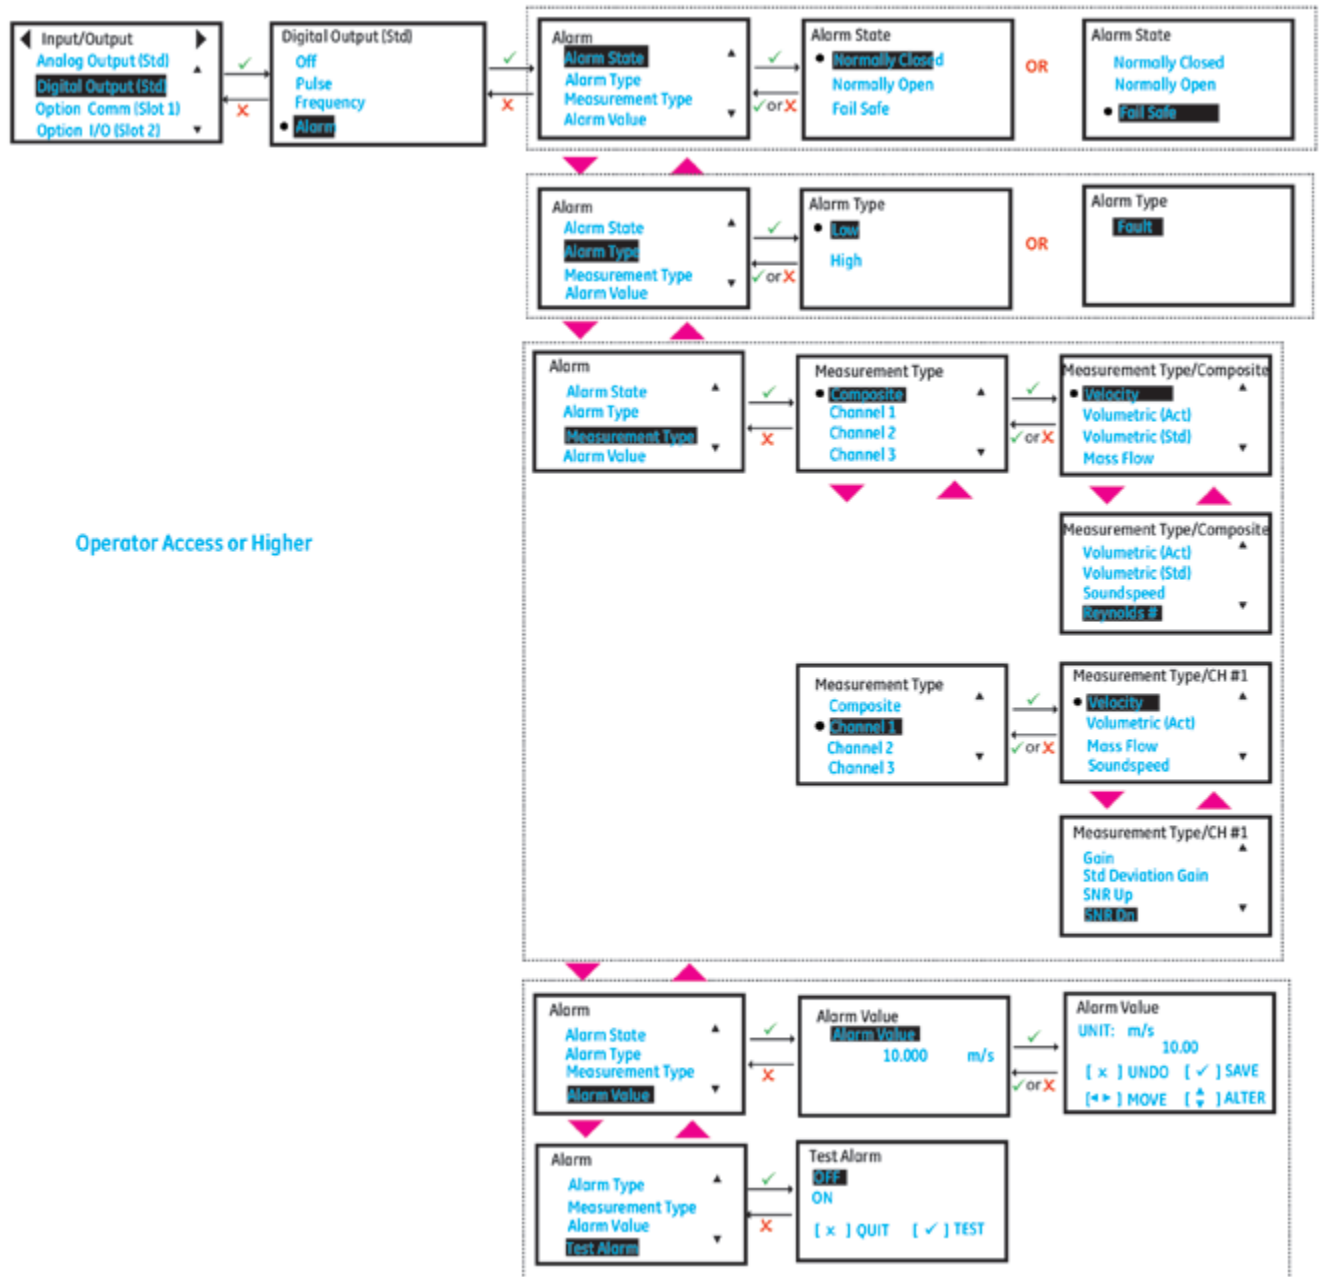

Figure 60: Setting up alarm output
2. Select the [Alarm State], [Alarm type], [Measurement] and [Alarm Value] options to suit your needs. The Figure 60 below, shows the available options. Also refer to the Table 13 below to understand each option.